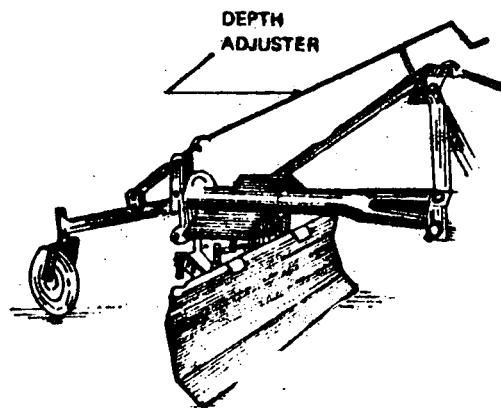

Fig. 2
- c) Adjust the cutting depth with the lever of the hydraulic system of the tractor and the rear wheel of the implement (Fig. 2).